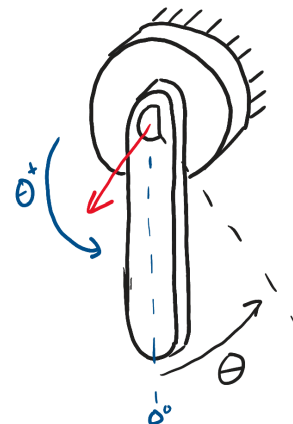

Figure 6. Right hand rule and pendulum zero position.
- Use the **right-hand rule**: point your right thumb out from the potentiometer shaft (see Figure 6) to determine the positive direction.